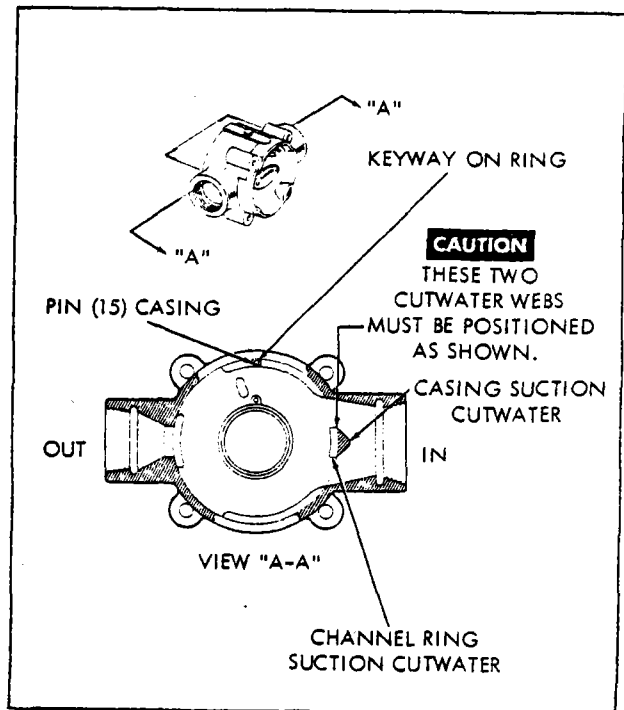

Figure 2. Model 134-135 Installing Inner and Outer Rings in Casing
Attach casing with screws (2). (See Figure 2 for proper positioning of inner and outer rings in casing.)
10. Replace pipe plug (3), and install nameplate (5) and attach with screws (4), if these were removed.